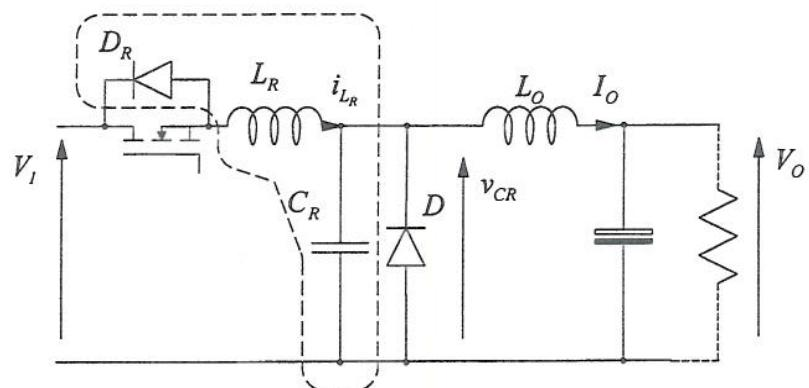

Figure Q5
- (b) It is then proposed that in order to reduce losses, the converter is converted to a soft-switched design, as shown in Figure Q5 (overleaf).